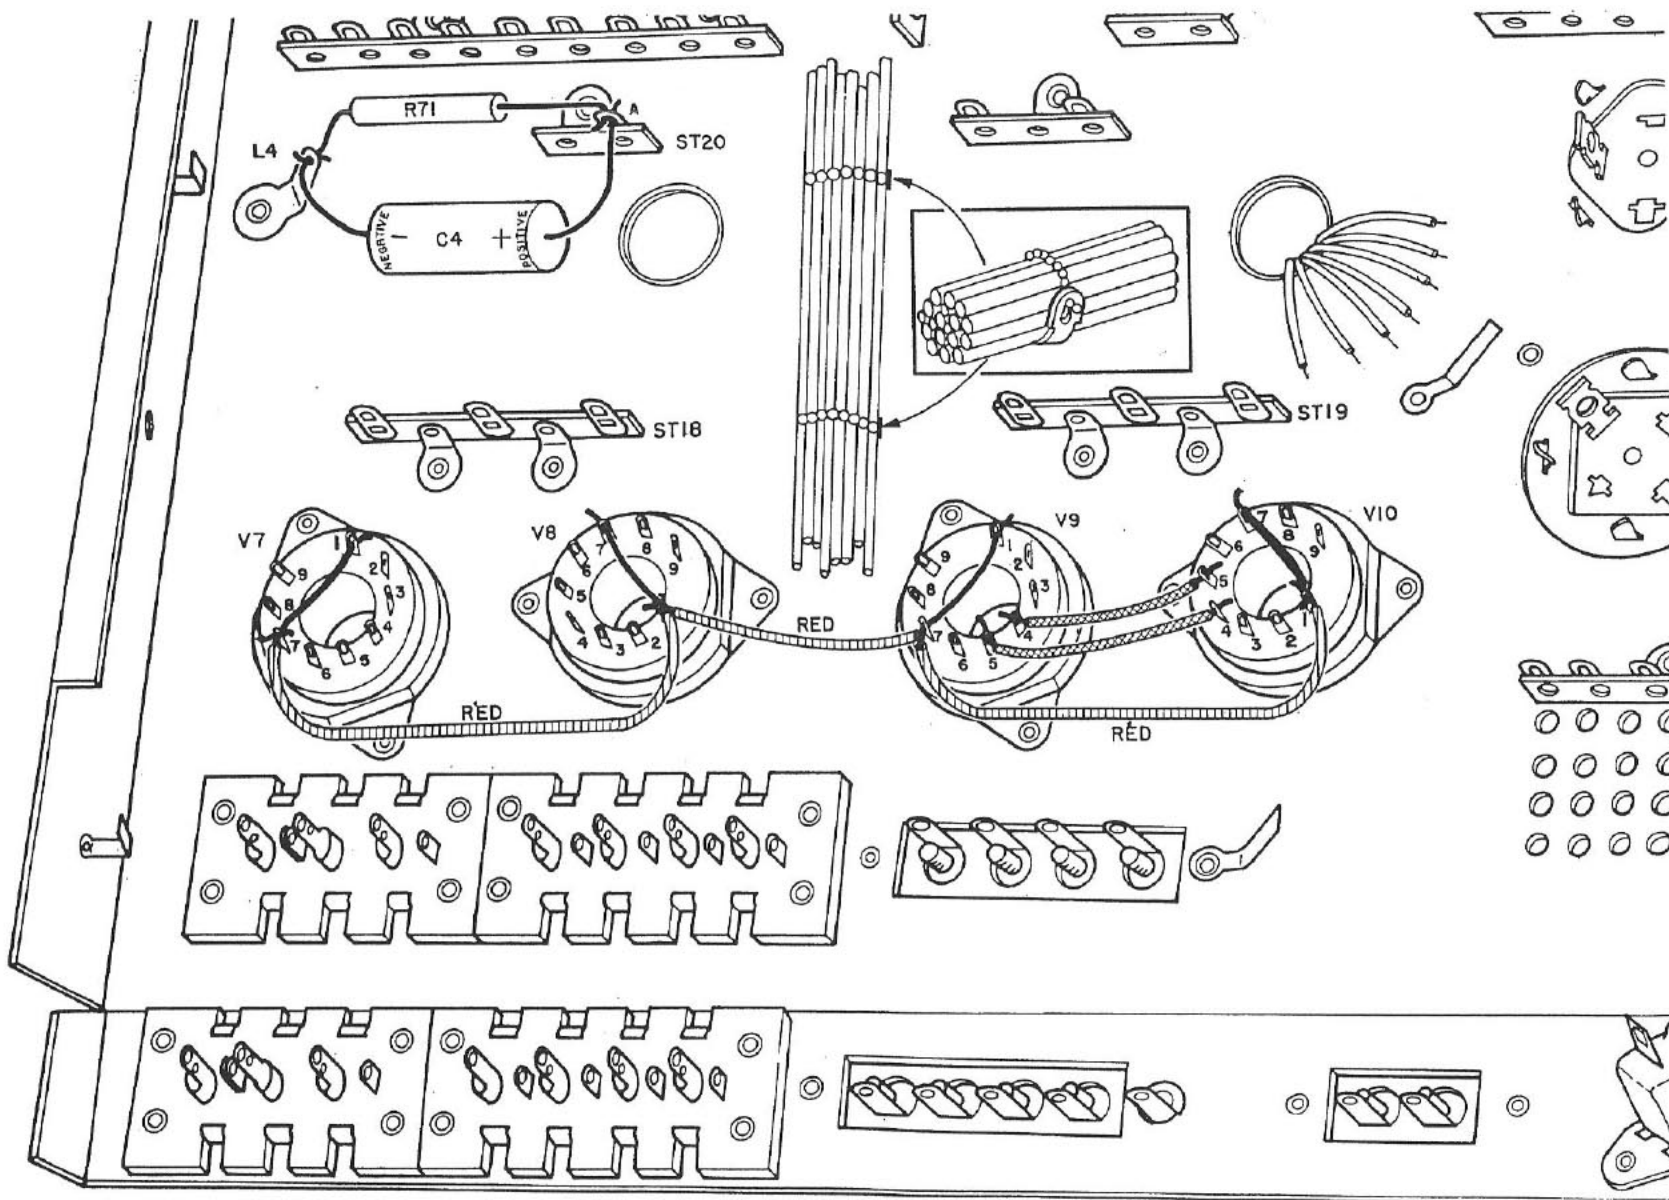

Figure 27-1
- Locate the two cable clamps from StrataPack 27 and examine them and the insert in Fig. 27-1. Notice the clamp is placed under the entire group of wires. The "bead" end is then inserted through the hole in the "tab" and, pulled tight and cut off, leaving two beads.